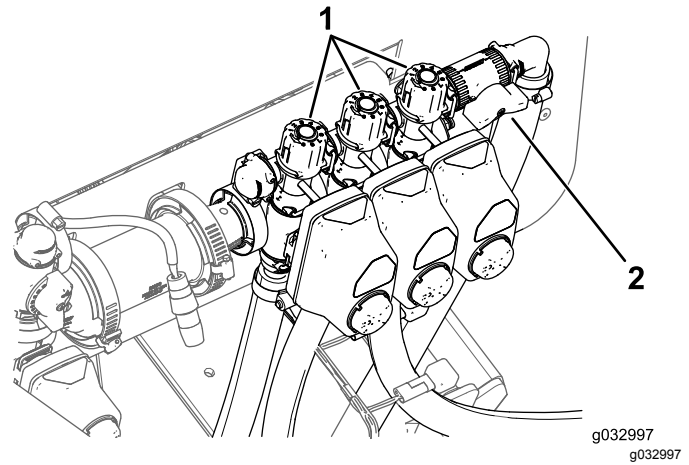

Figure 46
9. Turn off the left boom and adjust the boom-bypass knob (Figure 46) until the pressure is at the previous level.
11. Adjust the right boom-bypass knob (Figure 46) until the pressure is at the previous level.
13. Adjust the center boom-bypass knob (Figure 46) until the pressure is at the previous level.